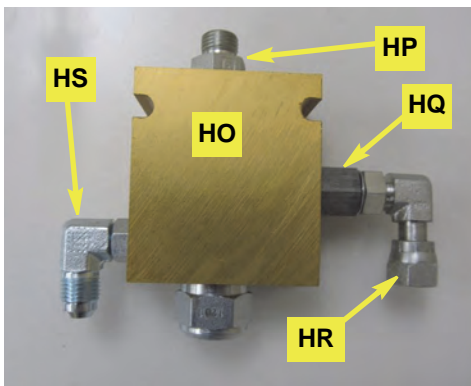

Figure 8a: Prepared load sense valve
a. Prepare load sense valve **HO** by installing adapter fittings as follows (Figure 8a):